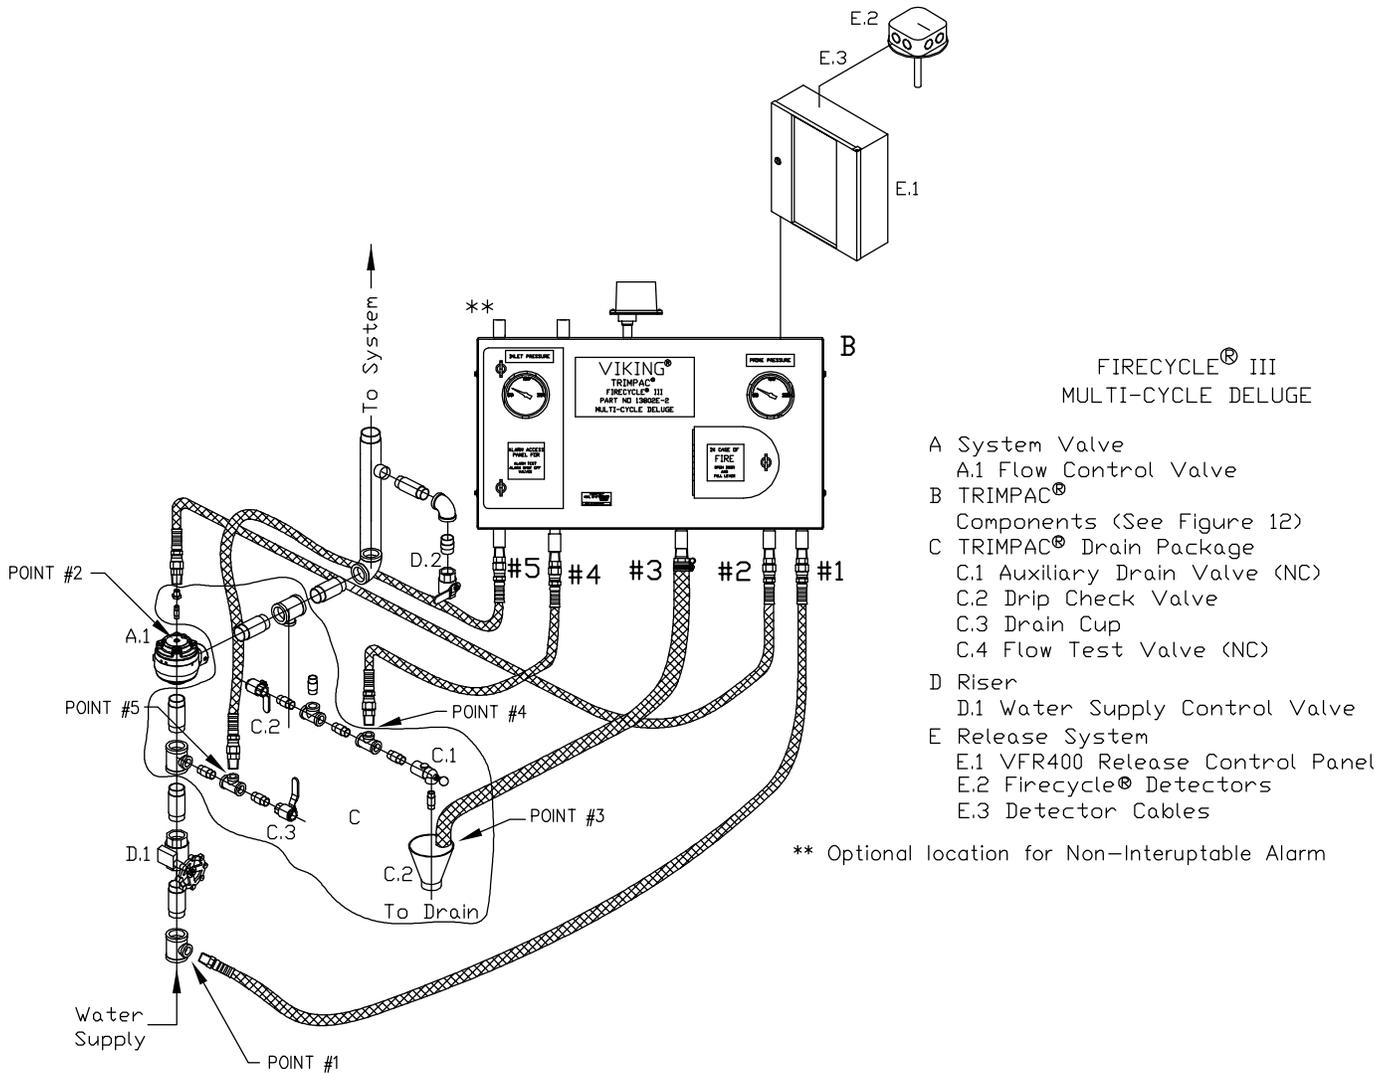

Figure 3
9. Placing the System in Service: (Refer to Figures 3 - 12.)
- c. Verify that the System Main Water Supply Control Valve (D.1) is closed and the Flow Control Valve (A.1) is trimmed according to Figures 3 through 12.
5. OPERATION (Refer to Figures 3 - 12.)
Refer to Figures 3 through 12 for component identification.
Legend for Figures 3 - 10